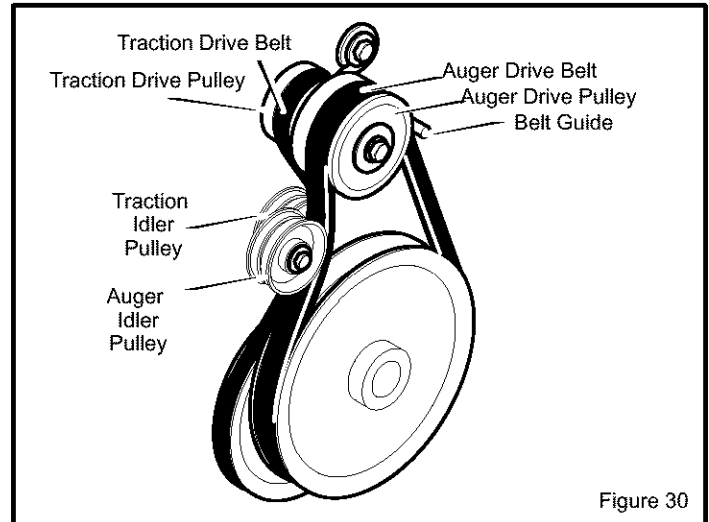

Figure 30
3. Loosen nut on auger idler pulley and move auger idler pulley towards belt about 1/8 inch (3 mm) (see Figure 30).
AUGER DRIVE BELT (SEE FIGURE 30)
6. Loosen belt guide and pull away from auger drive pulley. See Figure 30.
7. Loosen belt guide and pull away from auger drive pulley. See Figure 30.